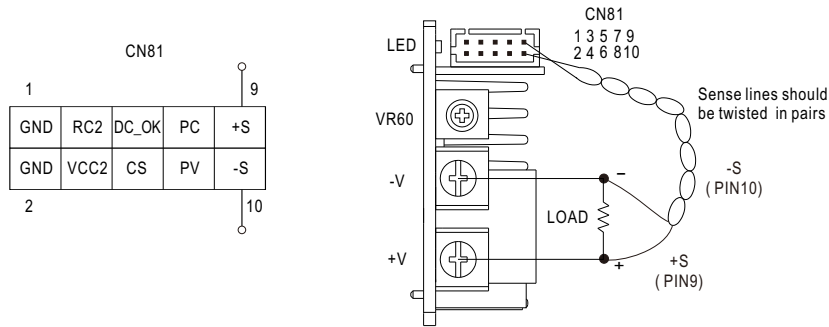

Figure 5-6 Connection diagram when using remote sense function
- ⊙ When using this function, the sensing wires should either be twisted or shielded to prevent external noise interference (refer to Figure 5-6).